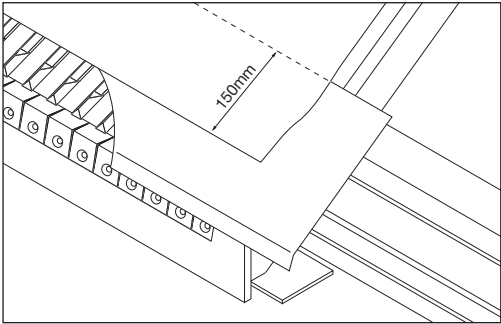

Fig 7 – Ensure water drainage at eaves
- Avoid water-traps behind the fascia board (Fig 7).